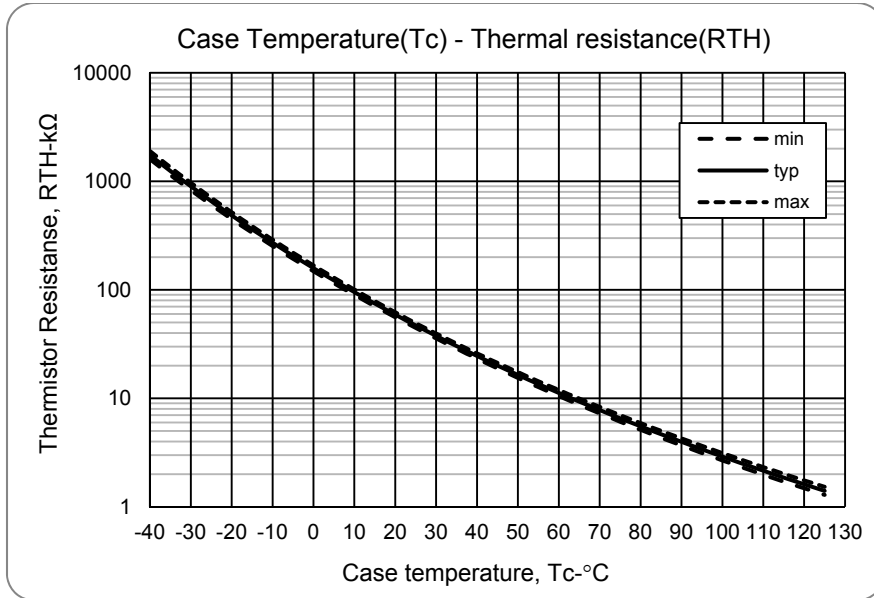
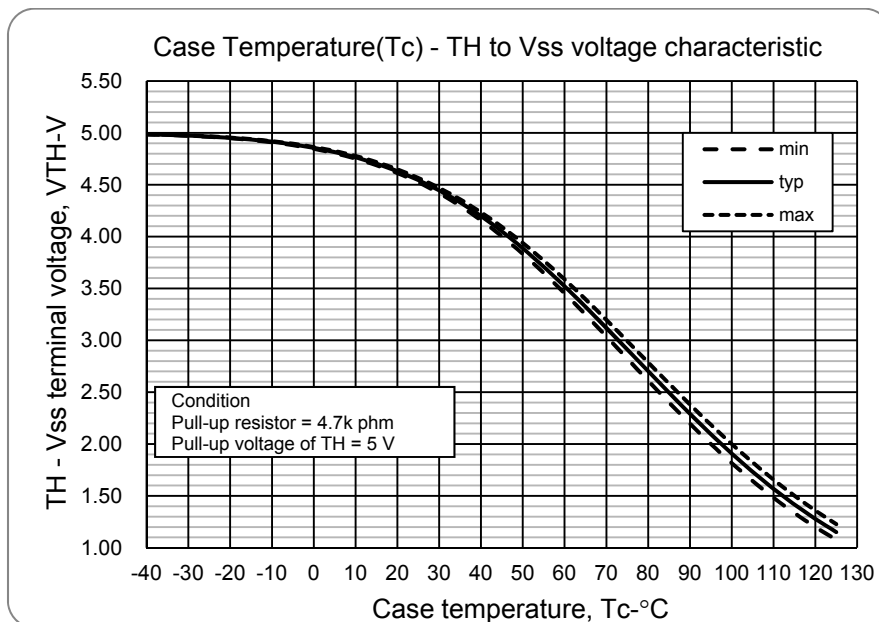

Fig.10 Variation of thermistor resistance with temperature
Fig.11 Variation of temperature sense voltage with thermistor temperature
- Inside the IPM, a thermistor used as the temperature monitor for internal substrate is connected between V_{SS} terminal and TH terminal, therefore, an external pull up resistor connected between the TH terminal and an external power supply should be used. The temperature monitor example application is as follows, please refer the Fig.10, and Fig.11 below.